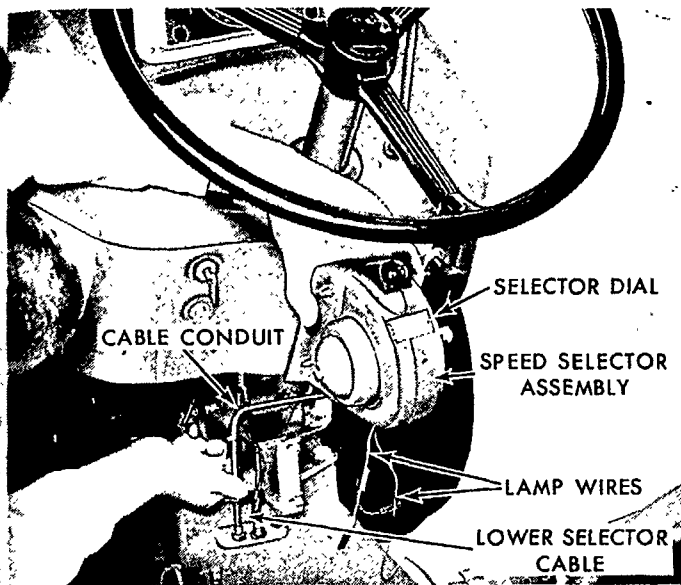

Figure 32
2. Place the selector lever in park (P) and loosen the conduit nut at the transmission cover.
3. Move the selector lever to the tenth speed position, allowing the complete assembly to move away from the transmission cover, as shown in Figure 32.